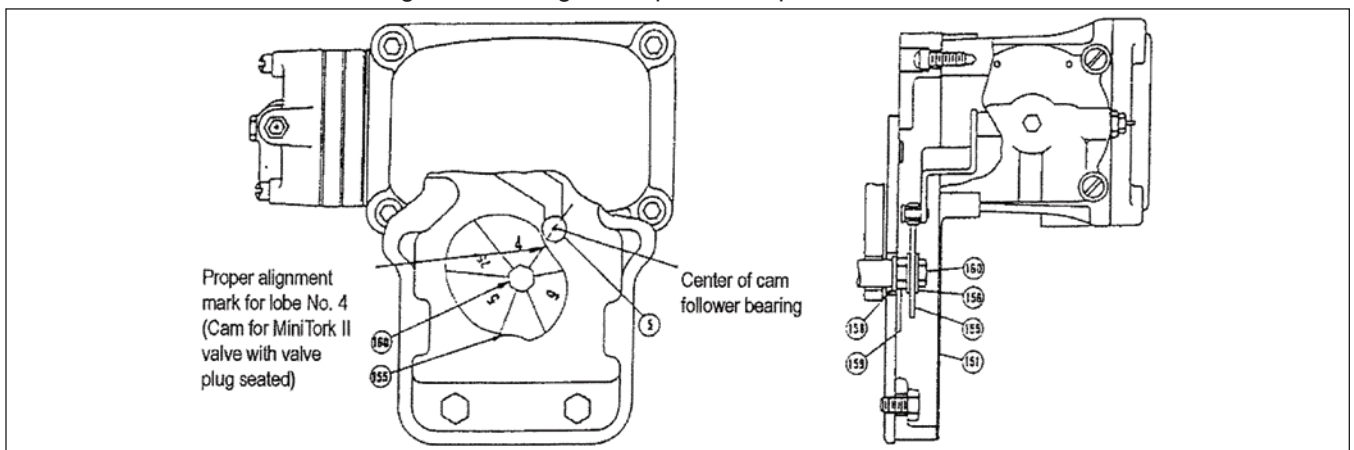

Figure E3- Cam follower bearing
Place the cam (155) on the bushing (159) so that the identification number of the lobe required is facing away when the cam bushing is assembled (see figure E3).
Place tongued lock washer (158) on the screw end and mount on the MiniTork II valve. Turn the cam in order to line up the origin mark of the active lobe with the center of the bearing as indicated in figure E3.
- Rotate the cam in order to align the origin mark of the proper lobe with the center of cam follower bearing as indicated in figure E3. Tighten screw (160) in order to maintain the cam position towards the cam follower.
**On air-to-close valve,** tighten metering tube assembly (59). Tighten firmly but do not over-tighten.
- Adjust the biasing spring (52) so that the valve plug will just take off from the seat at the proper signal for valve closing.
- Ensure that the valve stem performs its full stroke for full signal span. If stroke is too short for full signal span or if the stem performs full stroke before the signal reaches its full span (stroke is too long), adjust force-balance spring screw (6) as indicated in the table below. After adjusting force-balance spring, repeat two preceding steps until proper valve stroke is obtained for full signal span.
- Replace the cover (3) and the cam cover (151).
2. Rotate the cam in order to align proper lobe origin mark (see code) with center of the cam follower roll (see figure E3).